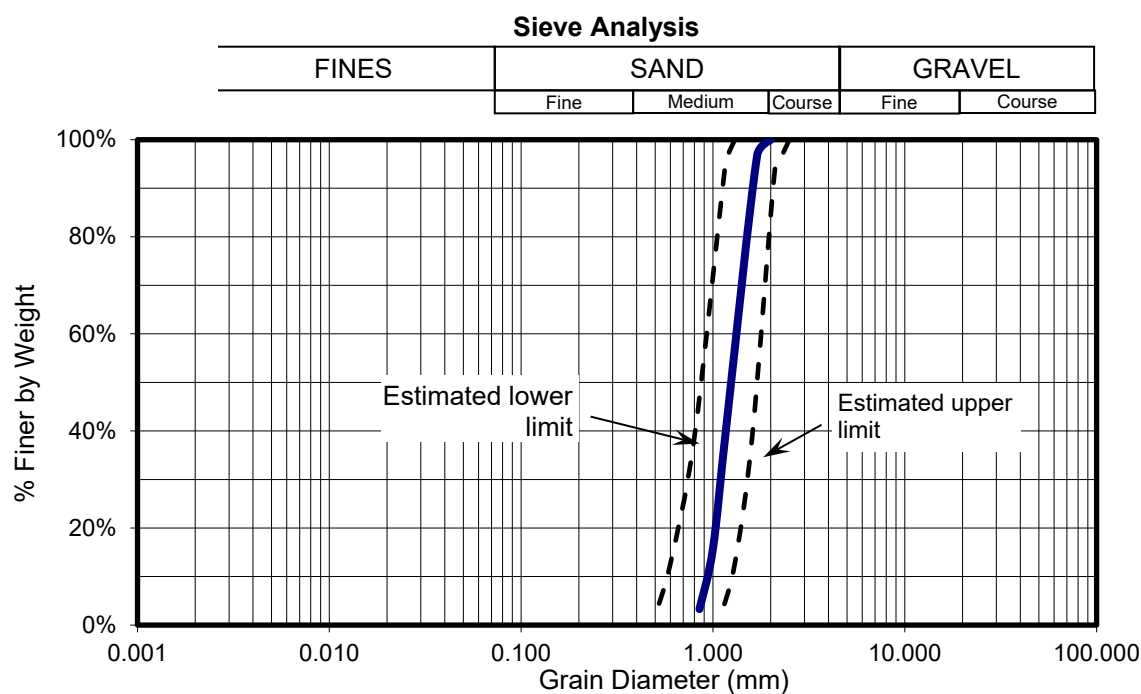

Figure 7: Estimated grain size distribution of backfill sand
8. **Backfill Material** – The backfill material will be sand provided by competition organizers on site. The sand will be a clean, dry, rounded to subrounded sand with grain size as specified in Table 1 and Figure 7. The backfill material must be used as-is: no water, additives, or chemical stabilizers may be placed in the backfill material.
Competition organizers will make reasonable efforts to ensure the competition backfill materials meet the specifications in Table 1 and Figure 7. Teams will be allowed to examine a sample of the competition backfill at the captains' meeting. No backfill samples may be removed from the meeting room. Teams may modify their wall design at this time if they desire. See section 12 below.